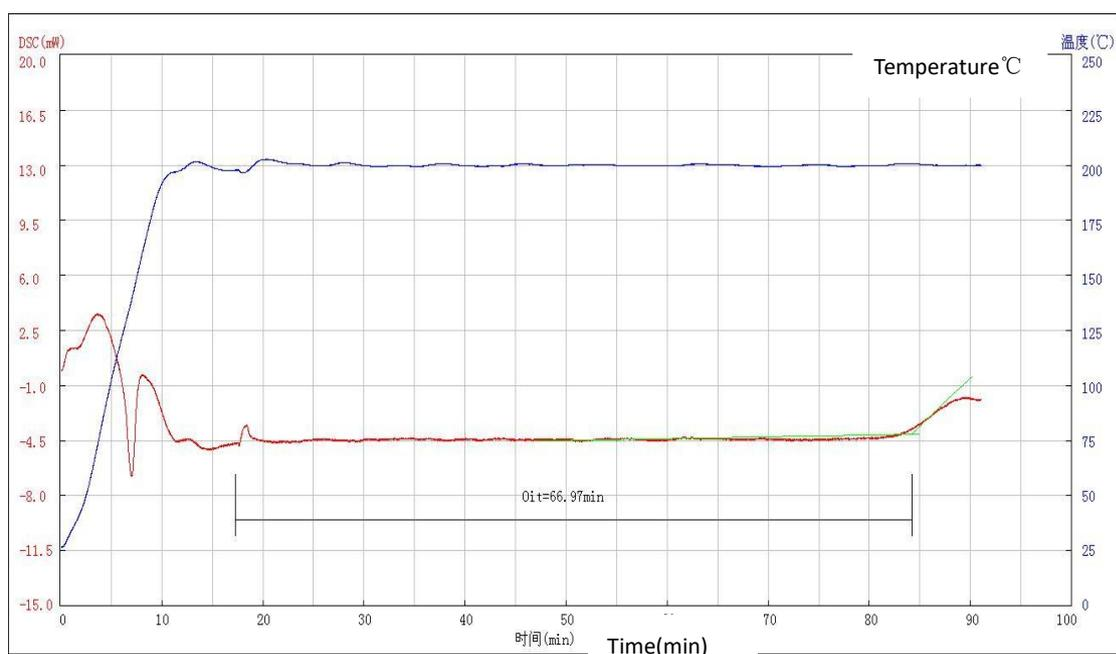

Figure 7.6
13. Figure 7.6 is experimental data of a sample oxidation induction, the upper curve of temperature profile, the bottom of the sample oxidation induction curve, the sample oxidation induction $O_{it} = 66.97\text{min}$.